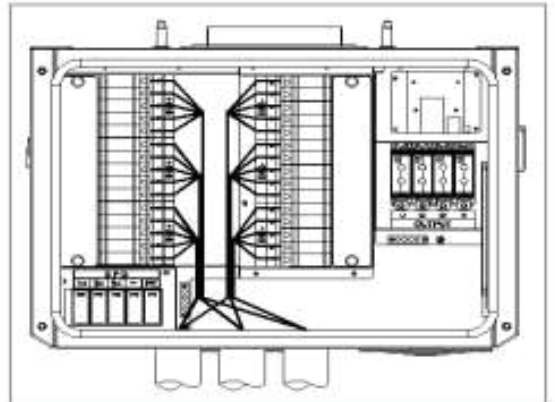

Figure 2.21- DC Input Cable Connection
The PVI 50-60TL inverters have three PV input sections: DC Input-1, DC Input-2 and DC Input-3. These three sections can work only in “Independent mode” (see Figure 2.21).
- (f) Connect the DC cables to the fuse holders and fasten the screws, as shown in Figure 2.21: *Note: If you are using the fuse bypass- skip this step*